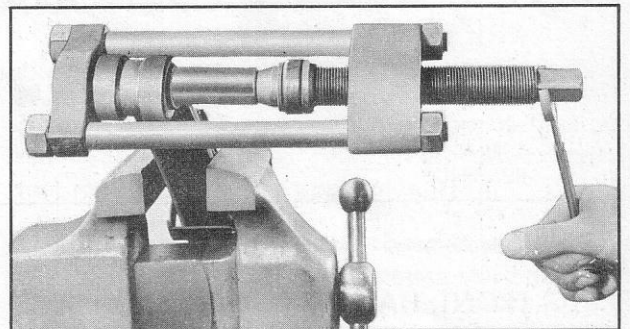

Fig. 5—Removing Spring Front Bushing
6. Press out front eye bushing with J-136. Figure 5 shows tool usage on bench.
2. Install Tool J-136 in position (fig. 5) with adapter plug inside the bushing and pressure plate behind the spring eye.